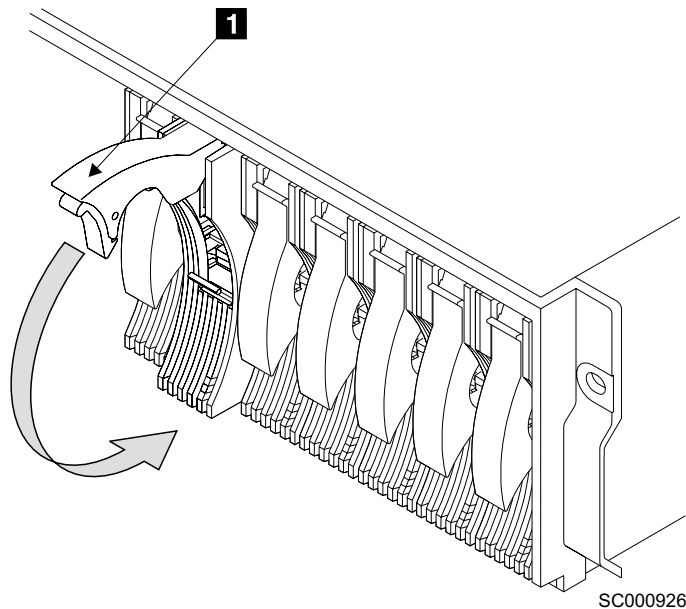

Figure 29. Closing the handle of a disk drive module
4. While you continue to push the disk drive module into the slot, slowly close the handle **1** until it stops with a click. See Figure 29. This action pushes the module fully home.